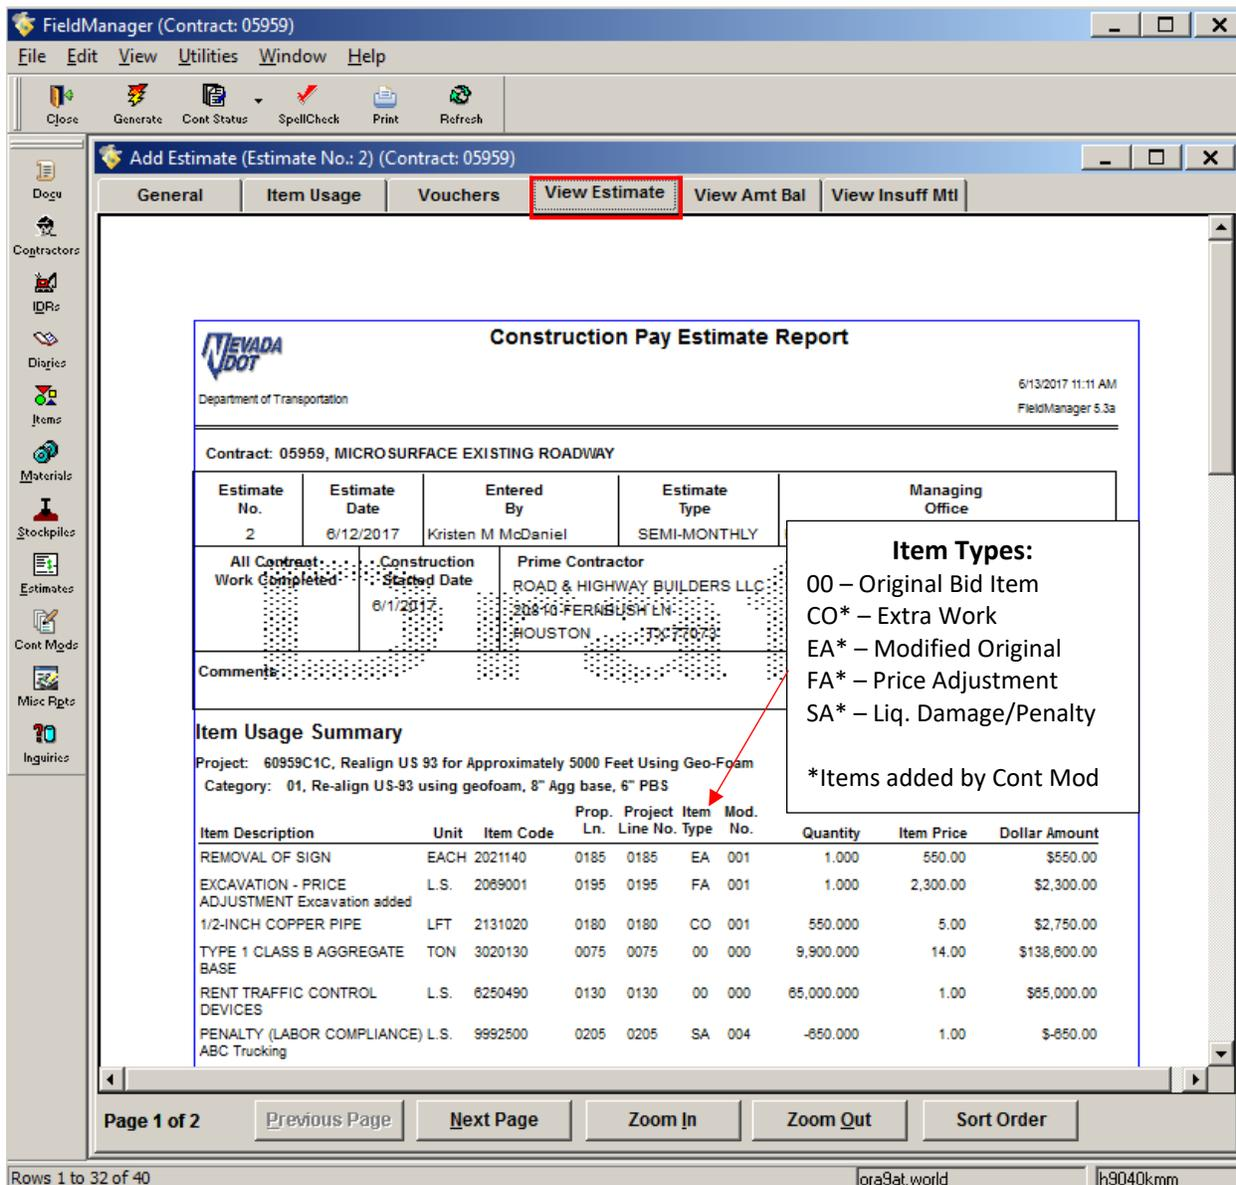

Figure 11-9. Add Estimate Tab Window – View Estimate Tab (Construction Pay Estimate Report)
- Click the **View Estimate** tab (Figure 11-9). The Draft copy of the Construction Pay Estimate Report opens.